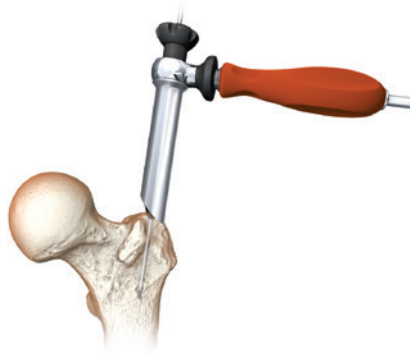

Figure 7
4. Insert the guide pin into the trochanteric region 2–3cm (Figure 7).